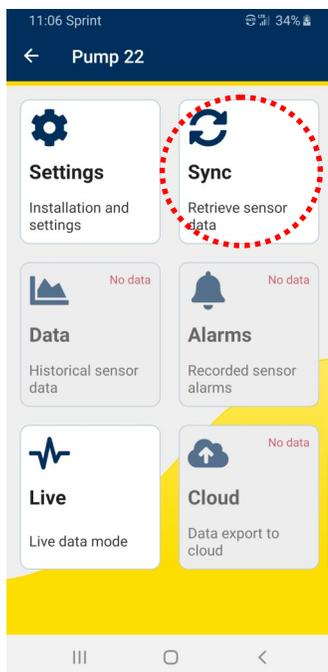

Figure 20
3. Select **Sync** (see figure 20).